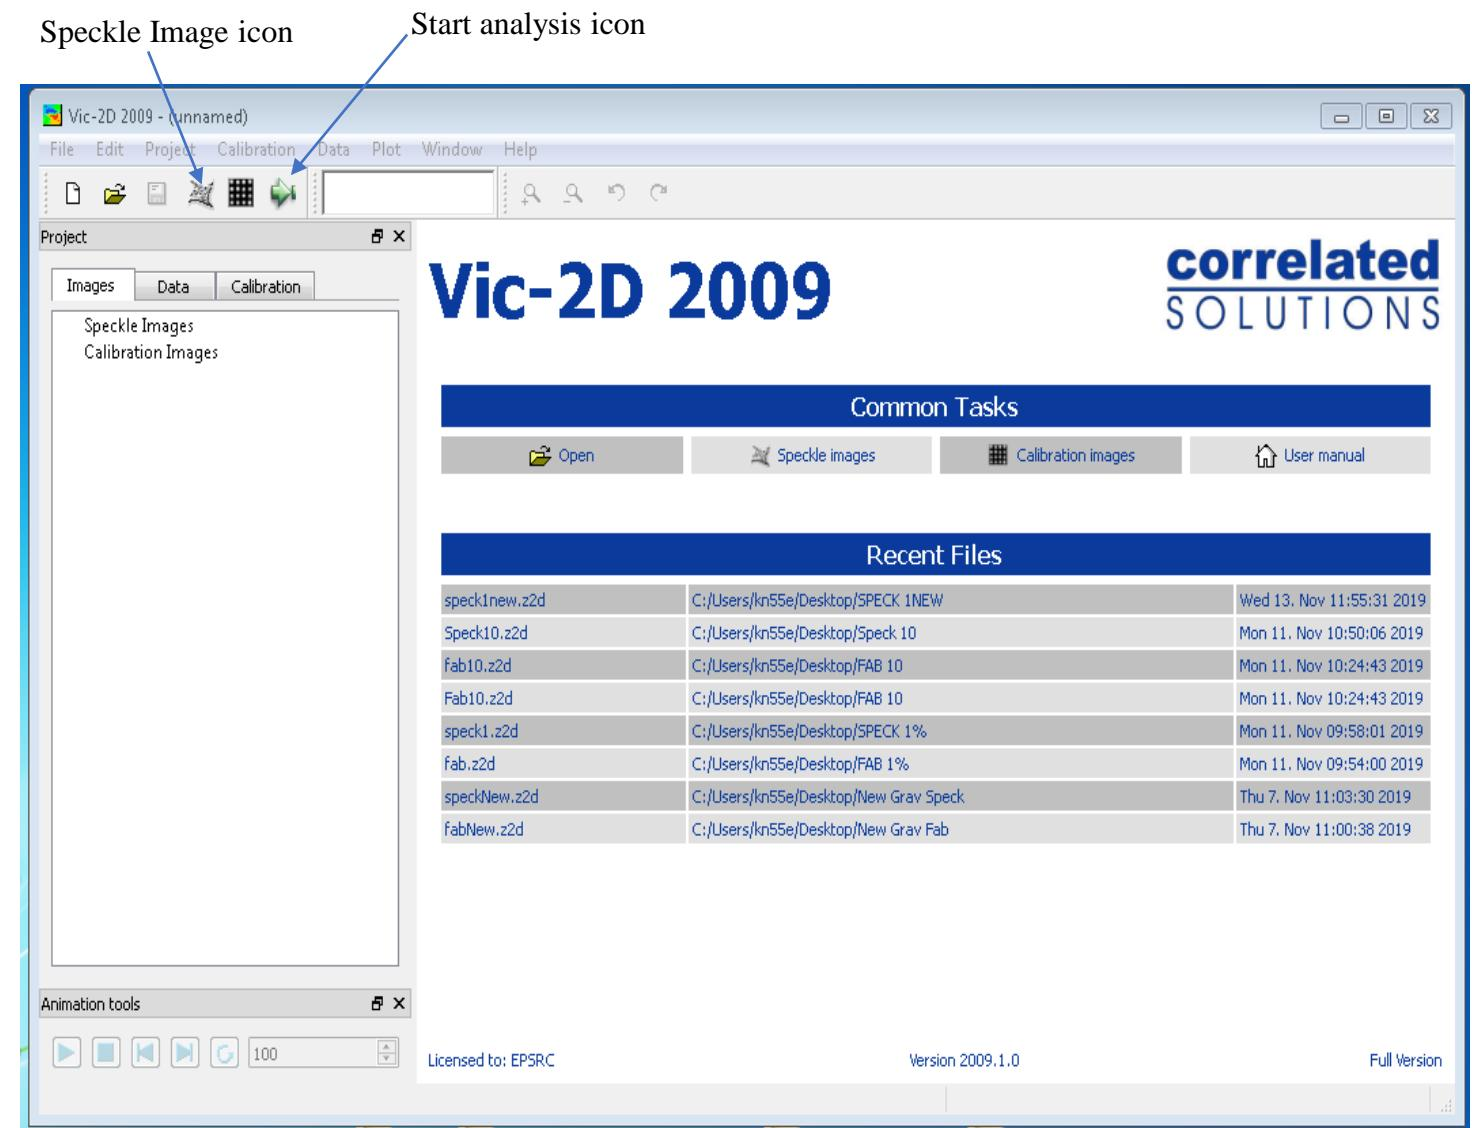

Figure 8
- Open the Vic 2D software. The interface at start-up will look as shown in the Figure 8
- If Vic 2D software is located on the same machine (PC) that you are running the software, there is no need to copy the deformed image folder(s). If the Vic-2D, is on another machine, copy the deformed image folders to that PC.